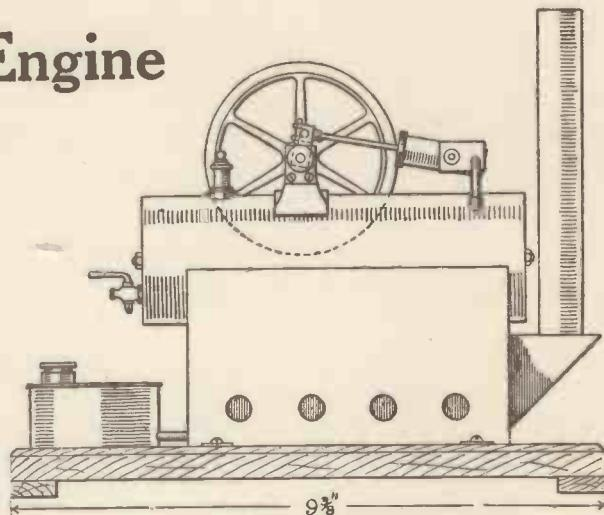

Fig. 1.—The Completed Engine.
**T**HIS small steam plant is of very simple construction and will work at a high speed. No lathe is necessary, as the turned parts can be purchased at any model makers' supply stores. It will be noticed, by referring to Figs. 1 and 2, that the model is very compact, and only occupies a comparatively small amount of space. The engine, of the single-acting oscillating type, is mounted on top of the boiler, and this is supported by a firebox, which acts as a flame-guard for the spirit lamp.